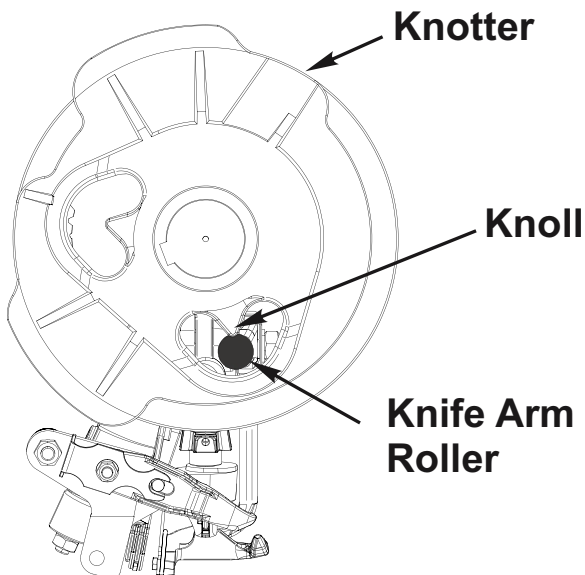
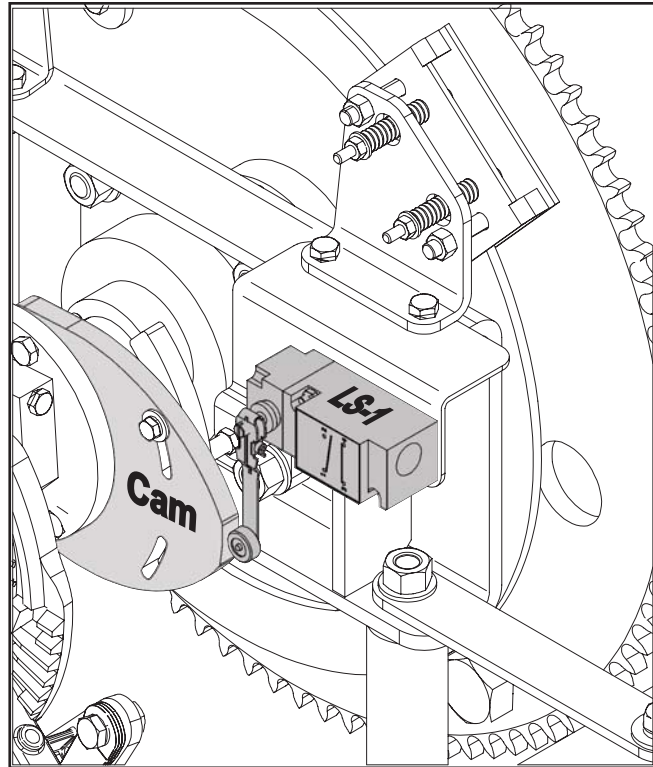

Figure 94 - Knife Arm Roller Centered on Knoll
Figure 95 - Roller Centered on Cam
2. Use the Diagnostic Controller to set knife arm so that it is fully extended. The Knife arm is fully extended when the knife arm roller is centered on the roller track knoll (see Figure 94) and the needles are in the home position (see Figure 77 on page 38).
5. Adjust stop cam so LS-1 lever arm roller is centered on stop cam (see Figure 95).
11. Observe stopping position of LS-1 roller on cam (see Figure 95). If necessary, adjust roller to center of cam. The Knife should be fully extended. The Knife arm is fully extended when the knife arm roller is centered on the roller trak knoll (see Figure 94) and the needles are in the home position (see Figure 77 page 38).